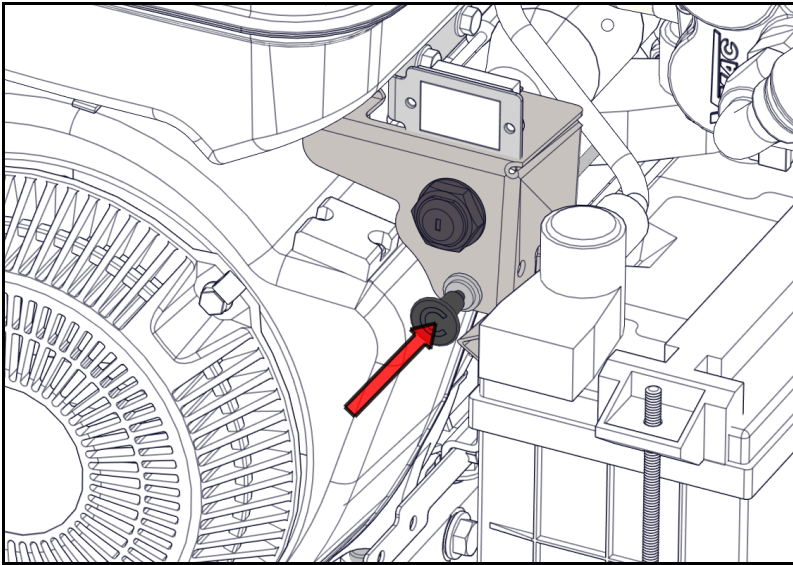

Figure 26 - Choke
- 4) Once running push the choke to the off position (Figure 26).